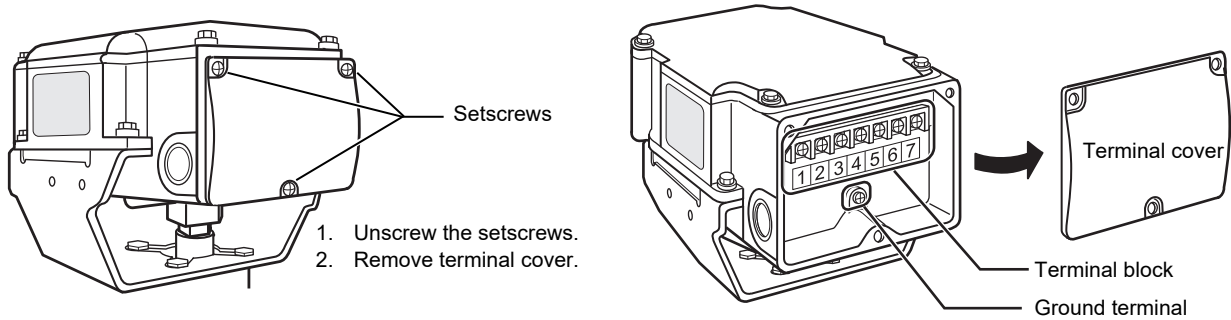
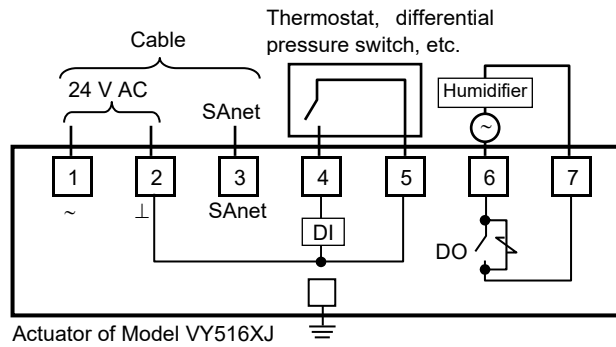

Figure 11. Terminal cover removal
Figure 12. Basic connection example
- 2) Unscrew the 3 setscrews (M4 × 10) of the terminal cover and remove the terminal cover, as shown in Fig. 11.
- 3) Correctly connect the wires to the terminals with M3.5 screw terminal lugs, referring to Fig. 12. To connect a device with over 100 V AC to the sub-DO, be sure to ground the actuator with 100 Ω or lower ground resistance. Refer to Fig. 11 for the location of each terminal.
- 1) Unscrew the setscrews and remove the terminal cover. See Fig. 11 for removing the terminal cover.